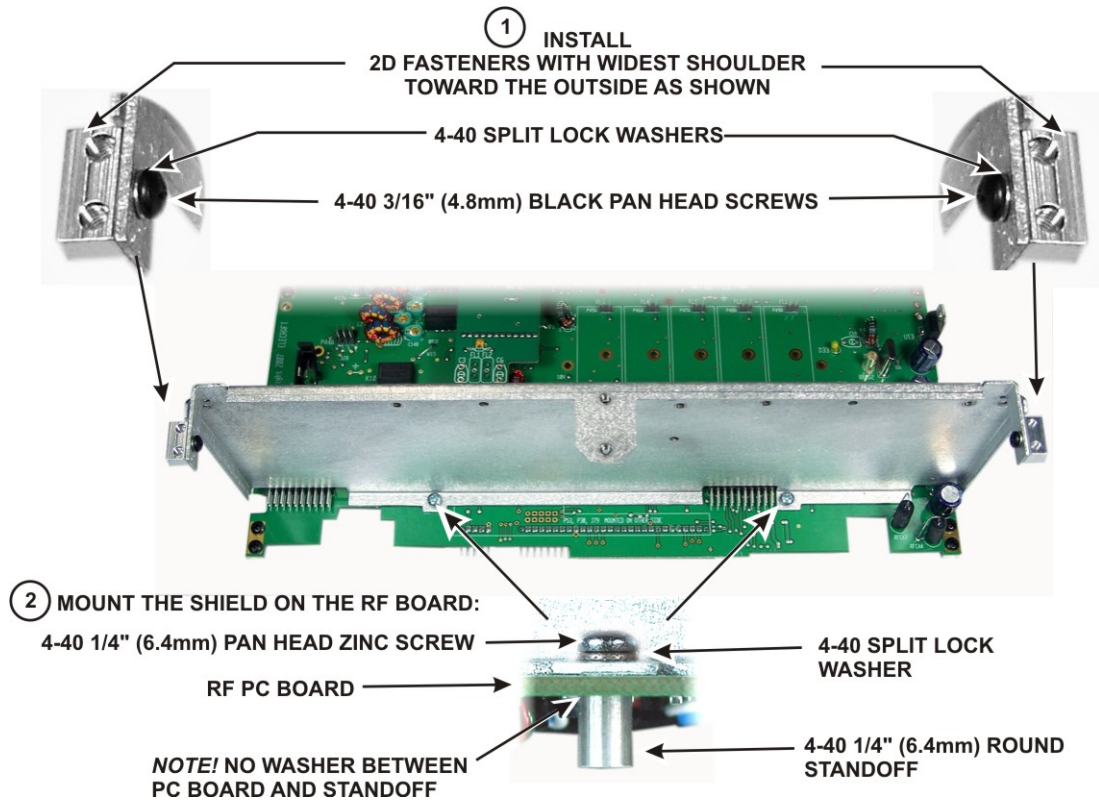

Figure 13. Installing Front Panel Shield.
□ Mount a 2D fastener on each ear of the front panel shield, and then mount the shield on the RF board as shown in Figure 13. Be sure the 2D fasteners are oriented with the widest part between the two holes and the edge toward the outside as shown.